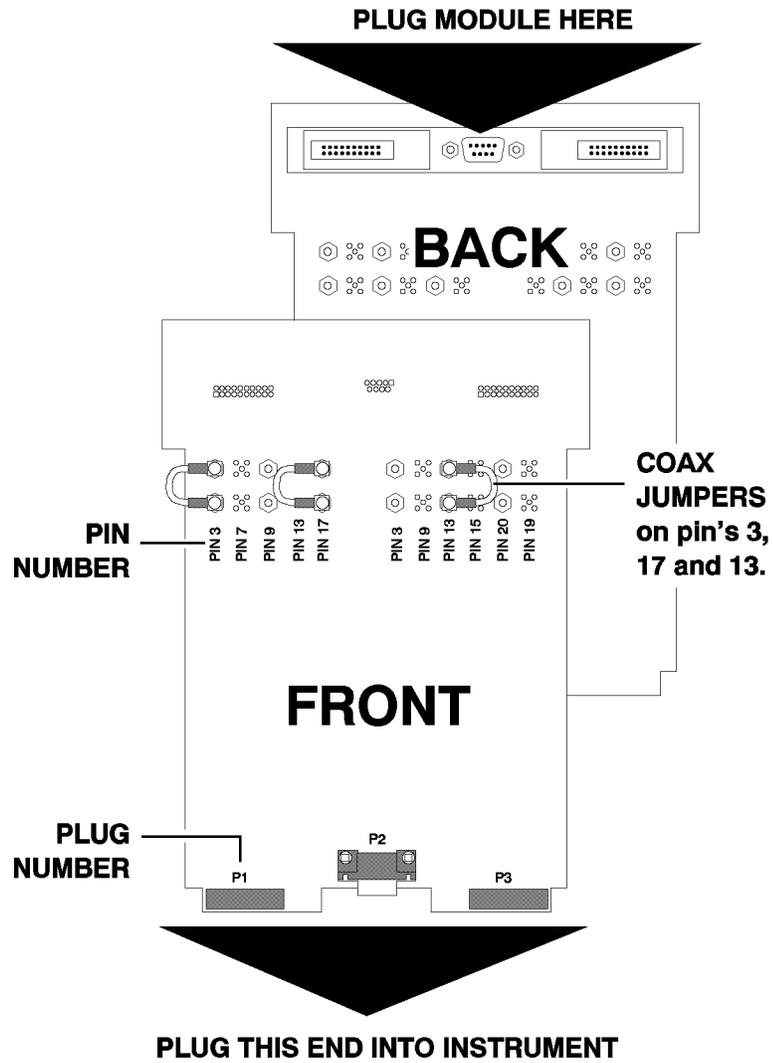

Figure 4-1
1. Configure the RF extender card with the proper coax jumpers. Refer to table 4-2 and figure 4-1.